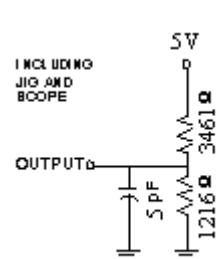

FIGURE 1B
6. Transition is measured  $\pm 500\text{mV}$  from steady state with  $C_L = 5\text{pF}$  as shown in Figure 1B. The parameter is guaranteed but not 100% tested.
10. Transition is measured  $\pm 500\text{mV}$  from steady state with  $C_L = 5\text{pF}$  as shown in Figure 1B. The parameter is guaranteed but not 100% tested.